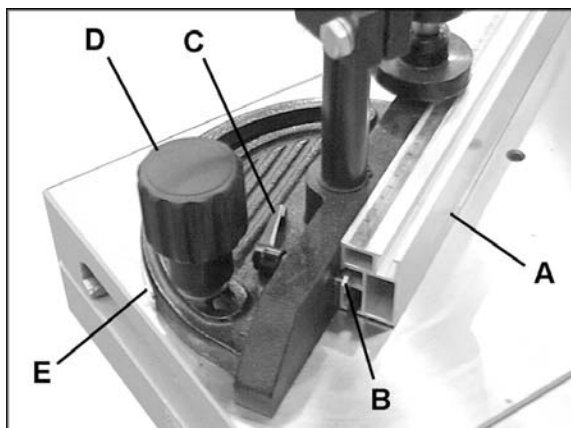

Figure 12
1. Slide the miter fence (A, Figure 12) onto the two square nuts (B, Figure 12) that are attached to the threaded part of the locking levers (C, Figure 12).
2. To slide miter fence to the left or right, loosen locking levers (C, Figure 12), slide fence (A, Figure 12) to the desired position and tighten locking levers (C, Figure 12). To change the angle of the fence loosen locking handle (D, Figure 12) and rotate the entire assembly. A scale (E, Figure 12) is provided to indicate the miter angle of the fence.